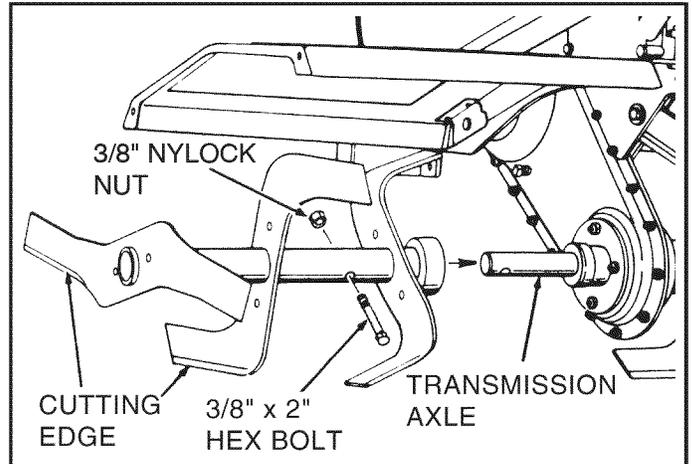

FIGURE 3
- Remove the preassembled 3/8" x 2" hex bolt and 3/8" nylock nut from the L.H. Tine Assembly. Slide the tine assembly onto the Transmission Axle on the left side of the tiller and secure with the hex bolt and nylock nut. (See Figure 3.) Repeat for the R.H. side.